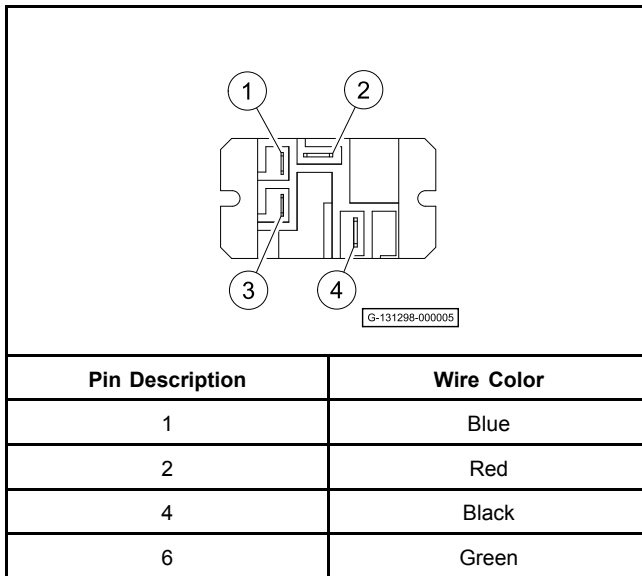

Figure 19-32 Brake Light Relay Terminals
2. Install the screws (2).
3. Connect the wires to the brake light relay terminals (**Figure 19-32, Page 19-29**).